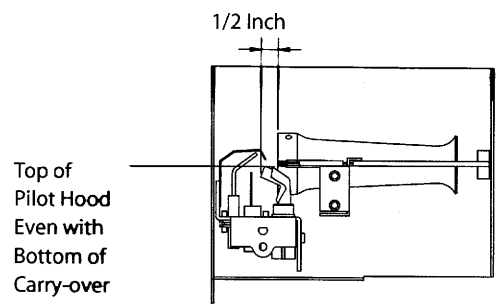

Figure 7
5. Check the dimensional relationship between the pilot and the main burners (see Figure 7).